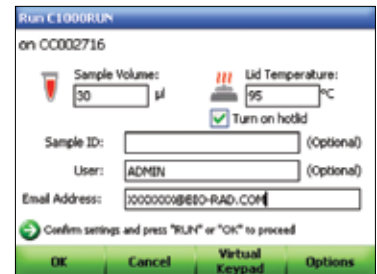

Fig. 13. Run information screen enabled to enter an email address.
4. Use the arrow keys to navigate to the Email Address field, then use the alphanumeric keys or virtual keypad to enter an email address (Figure 13).